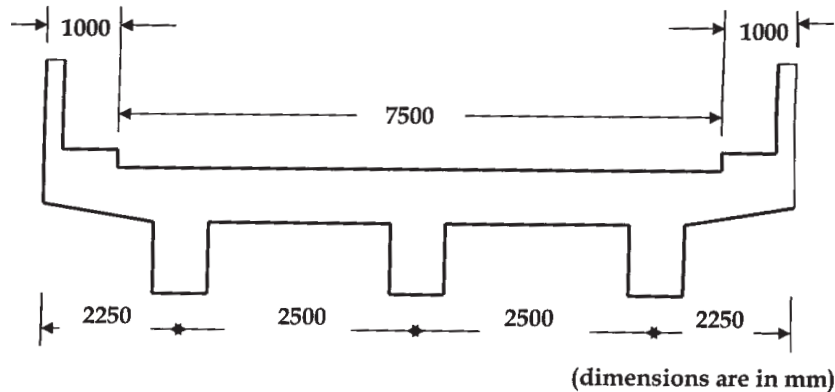

Fig.3
- Q3)** Design the Reinforced Concrete deck slab for the reinforced concrete T - Beam deck slab bridge shown in fig. 3 with the following details. [25]